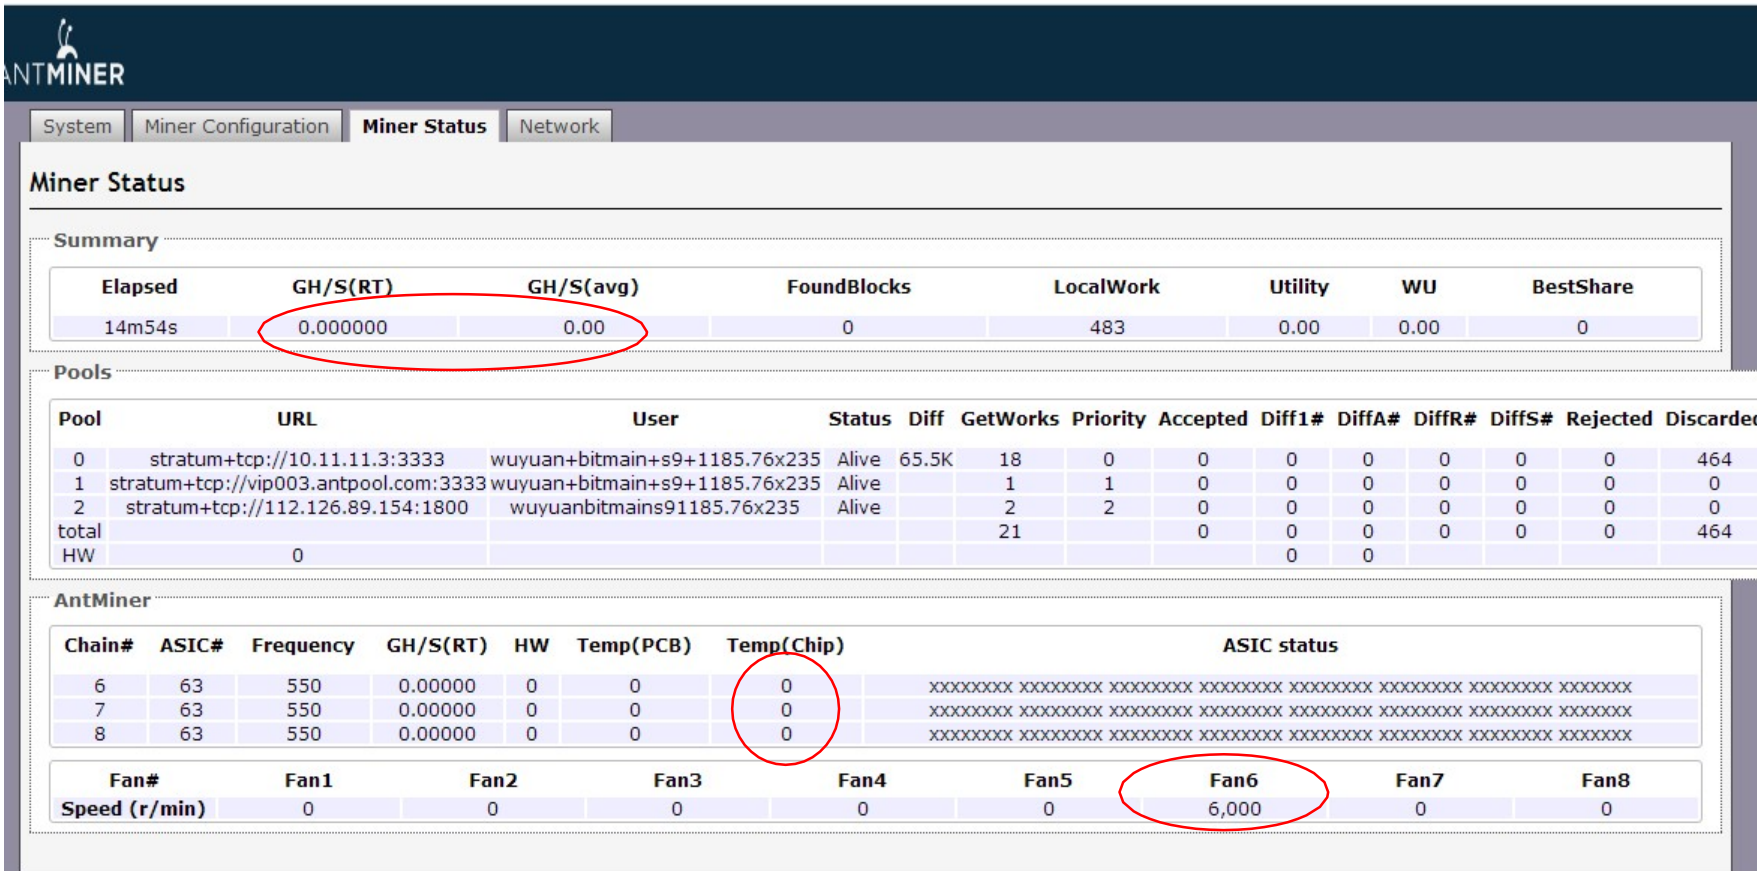

Fig 28. Only One Fan is Detected
5) No GH/S(RT), no GH/S(AVG), and red light blinks. See Fig 28